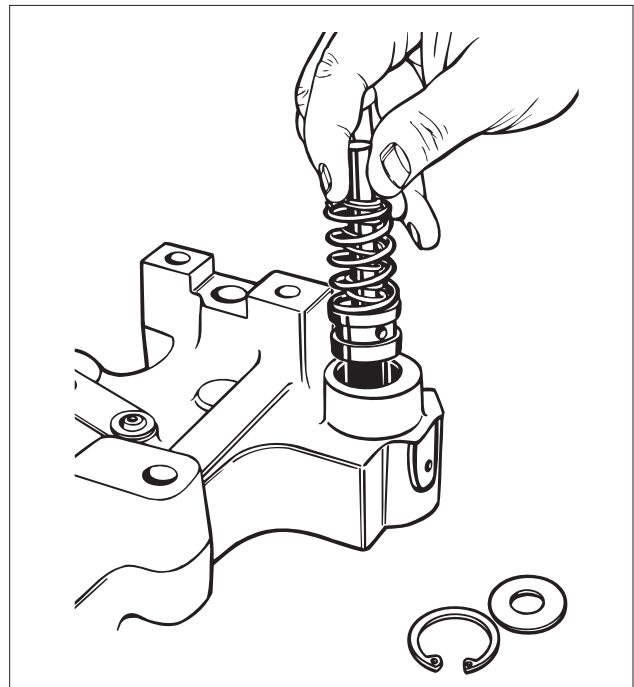

FIG. 30
5. Remove the retainer, spring and slave piston. Check for nicks or burrs that could cause binding. (see Fig. 30)